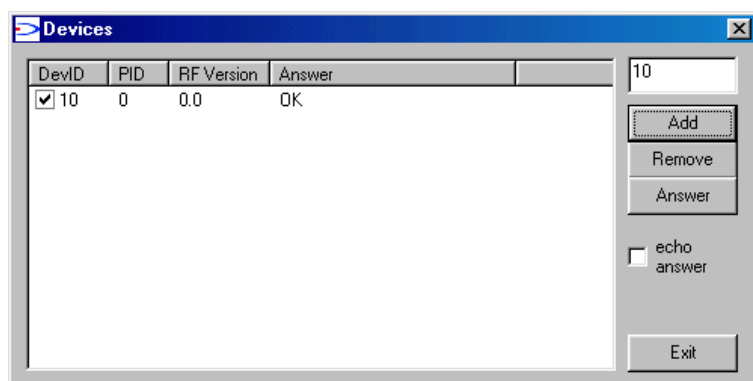

Figure 9 - Device network
**Check “echo Answer”:** by ticking the check box the program sends the same frame previously received by a device working in 2 way mode. If the check box is not ticked, the program will send the OK default answer (as shown in Figure 9).